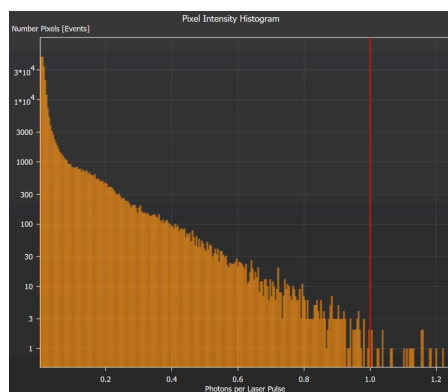

Figure 4.1. Photons per pulse.
- Inspect the pixel intensity histogram (Fig. 4.1).